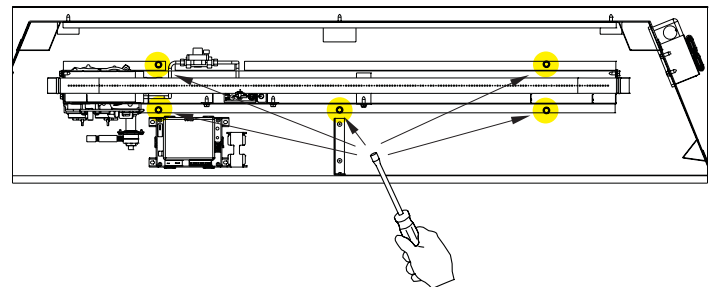

Figure 17
2. Remove the five 5/16" Hex screws that hold down the complete burner and valve assembly. There are three screws on the front bottom flange, and two on the back bottom flange, near the ends. See Figure 17.